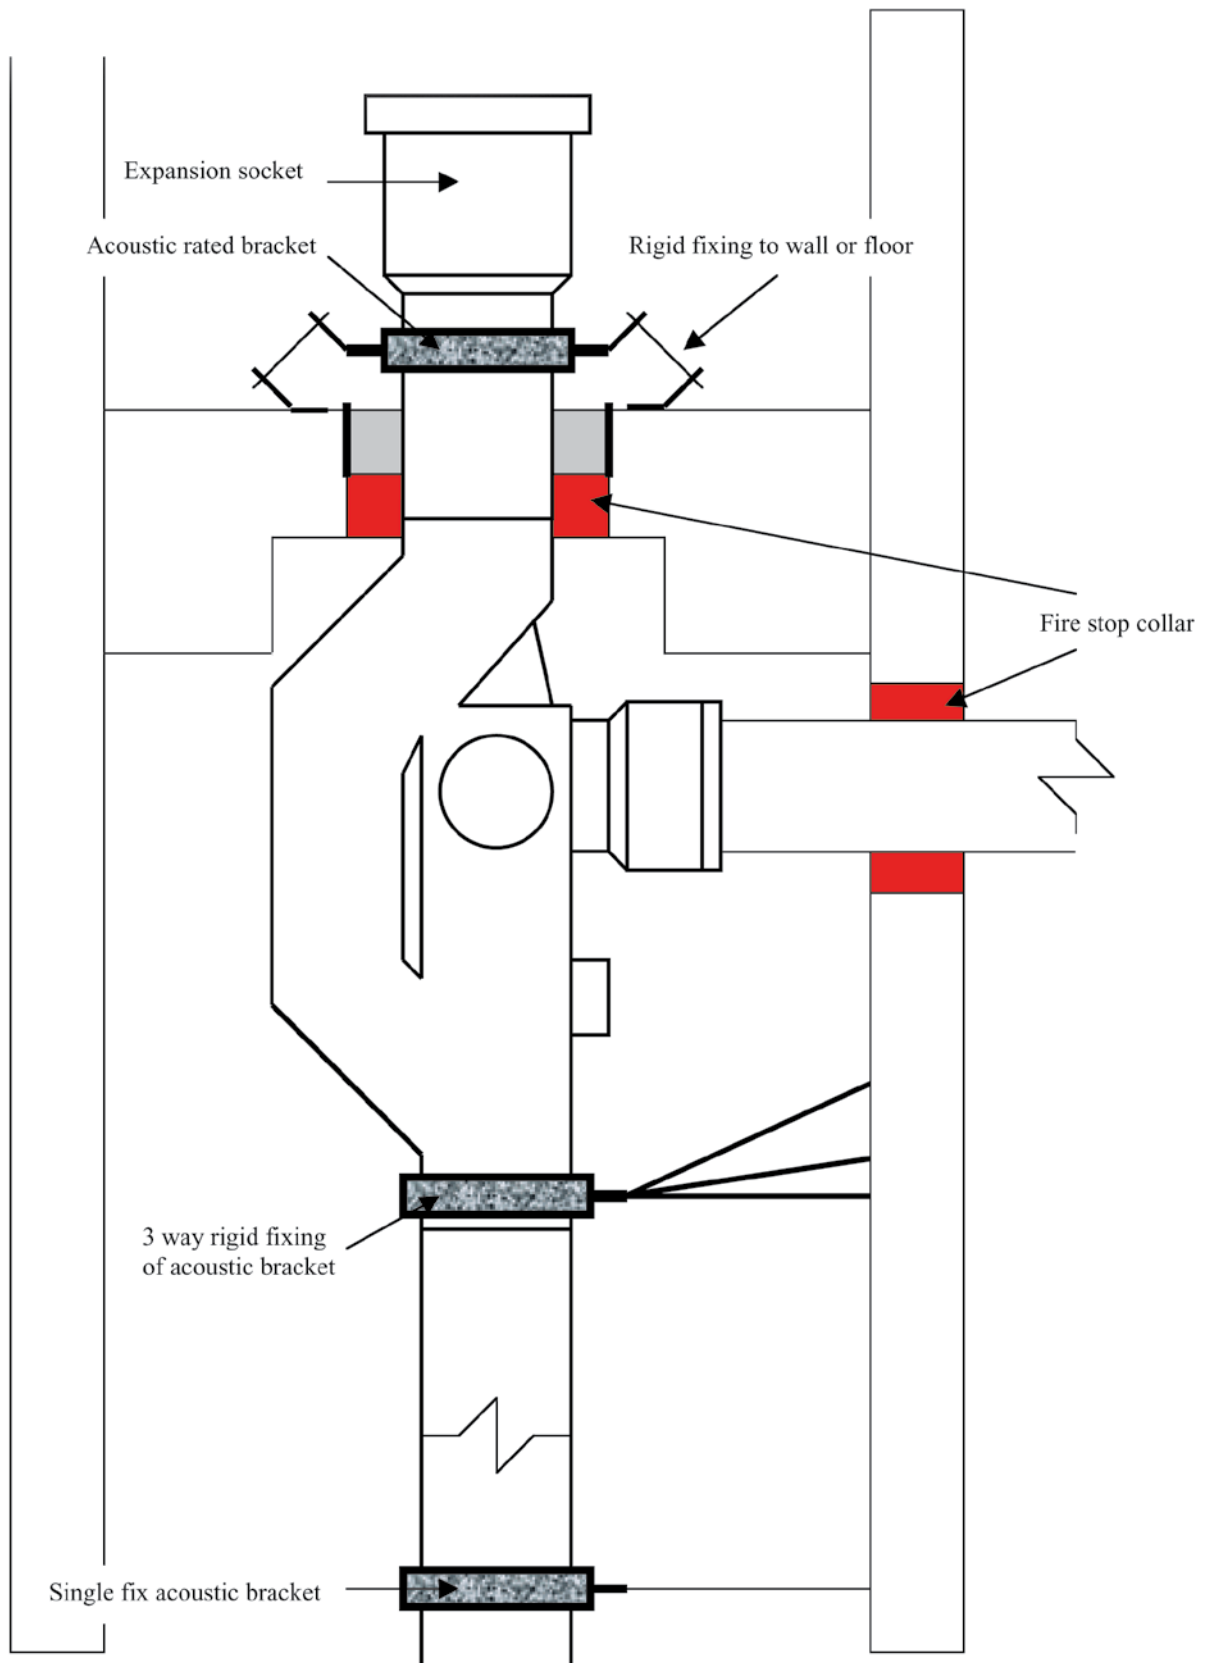

Fig 7 Fire stop collars for Akavent Stacks
9.1 Fire stop collars must be of a “drop in” type that has been tested and approved for use with HDPE (Promat Fyregaurd Model FCDP100-120 for 110mm and Model FCDP 150-120 for 160mm) (see figure 7.) and must be installed to manufacturer’s specification.
10.3 For every mm of slab thickness greater than 120mm the radius of boxing below 120mm level must be increased. (see figure 7.)